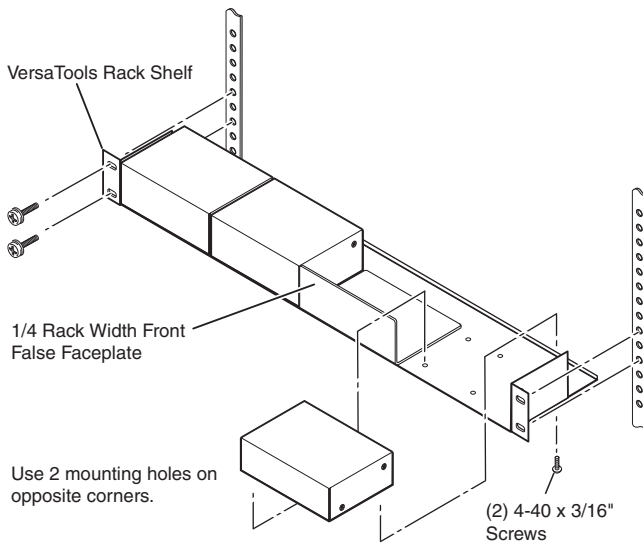

Figure 2-1 — Mounting a YCS SW2 A (with other units) on a VersaTools rack shelf
- Mount the YCS SW2 A on the rack shelf, using two 4-40 x 3/16" screws in opposite (diagonal) corners to secure the unit to the shelf (see figure 2-1, below).